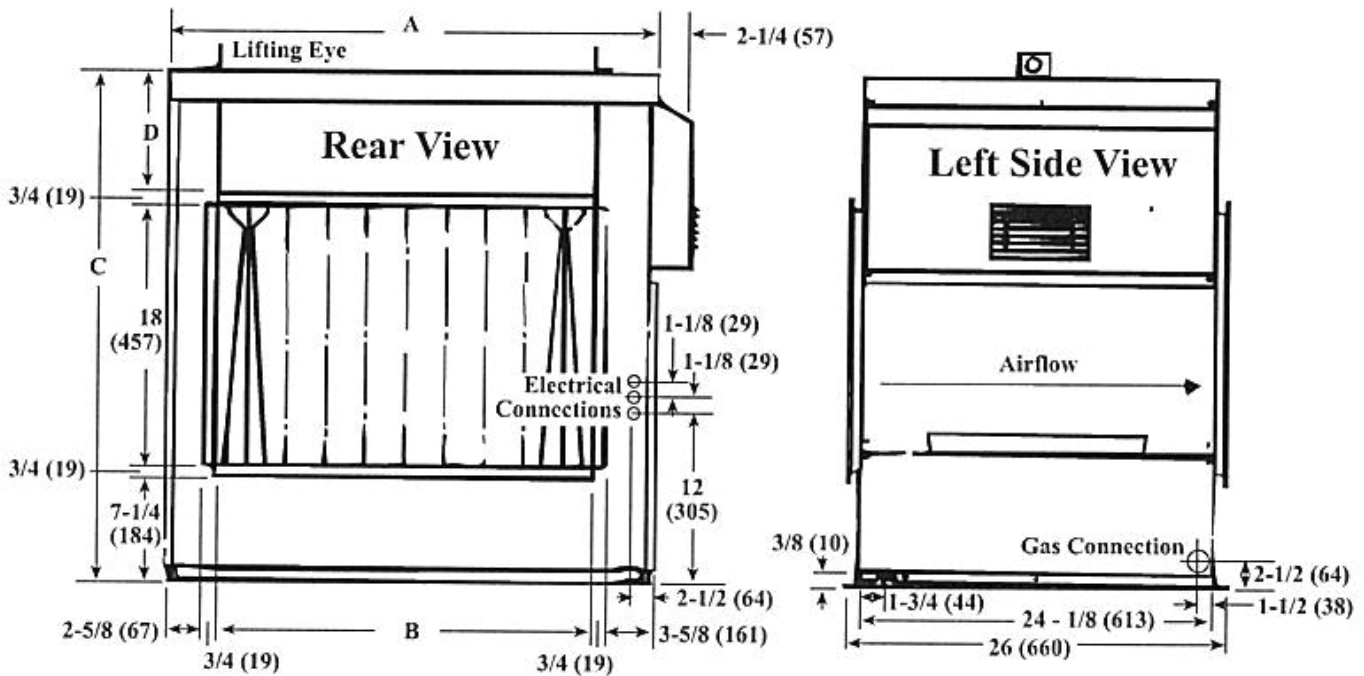

Figure 2. Model RPV Series Dimensions (Refer to Table 4)
- Dimensions for model series RPV are shown in Figure 2 and listed in Table 4.